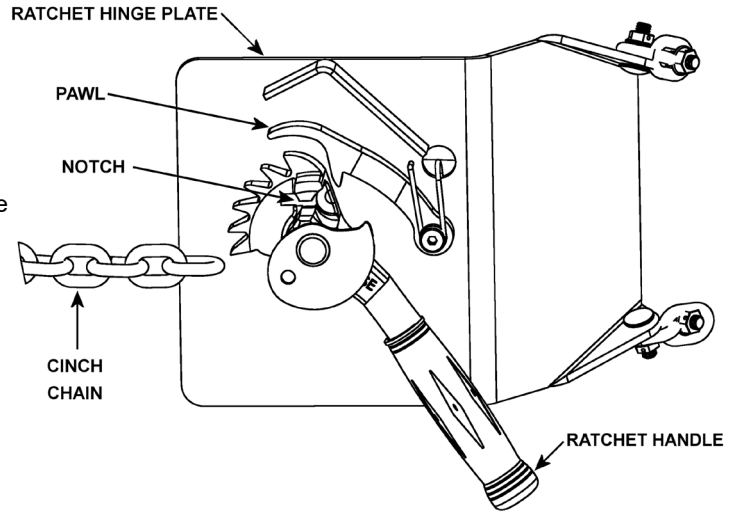

Figure 3.2
3. Attaching the drum: Drape the chain across the front of the drum and engage a link into the notch in the ratchet (Figure 3.2). Turn the ratchet clockwise to tighten chain. If ratchet turns until the pawl is beyond the last ratchet tooth, turn the ratchet back and slide the next link into the ratchet notch and try tightening again. The chain must be held tightly against the drum with the pawl engaged securely in the ratchet teeth.